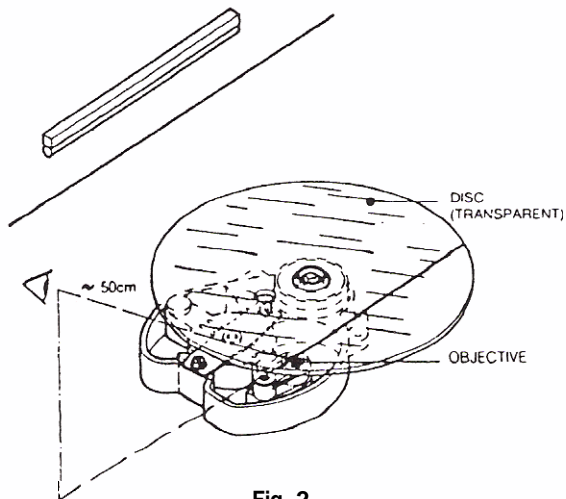

Fig. 2
- Turn the CDM 90 degrees relative to the previous position (see Fig. 2).